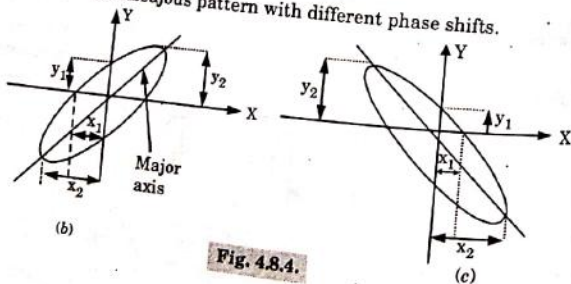

Fig. 4.8.4.
3. Two equal voltages of same frequency but with a phase shift ϕ is applied to a CRO we obtain Fig. 4.8.4.